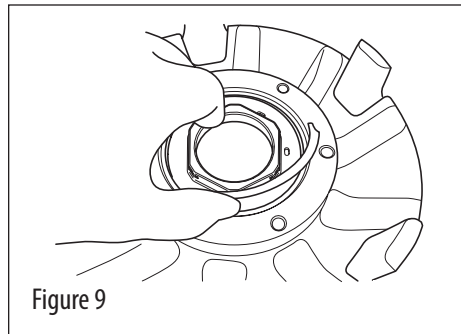

Figure 9
3. Install the spiral snap ring into the snap ring groove in the hub. Make sure that the snap ring is fully seated into the groove in the hub (see Figures 9 & 10)